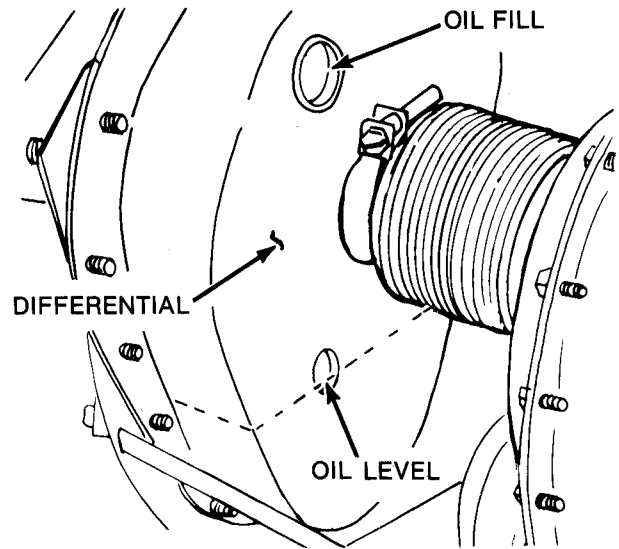

FIG. 3 — DIFFERENTIAL LUBE LEVEL
- **DIFFERENTIAL:** After standing mower on rear bumpers, remove plug from differential housing and check level of grease. Add Snapper 00 grease as needed to bring level up to bottom edge of hole. Install new plug after servicing. (Figure 3).